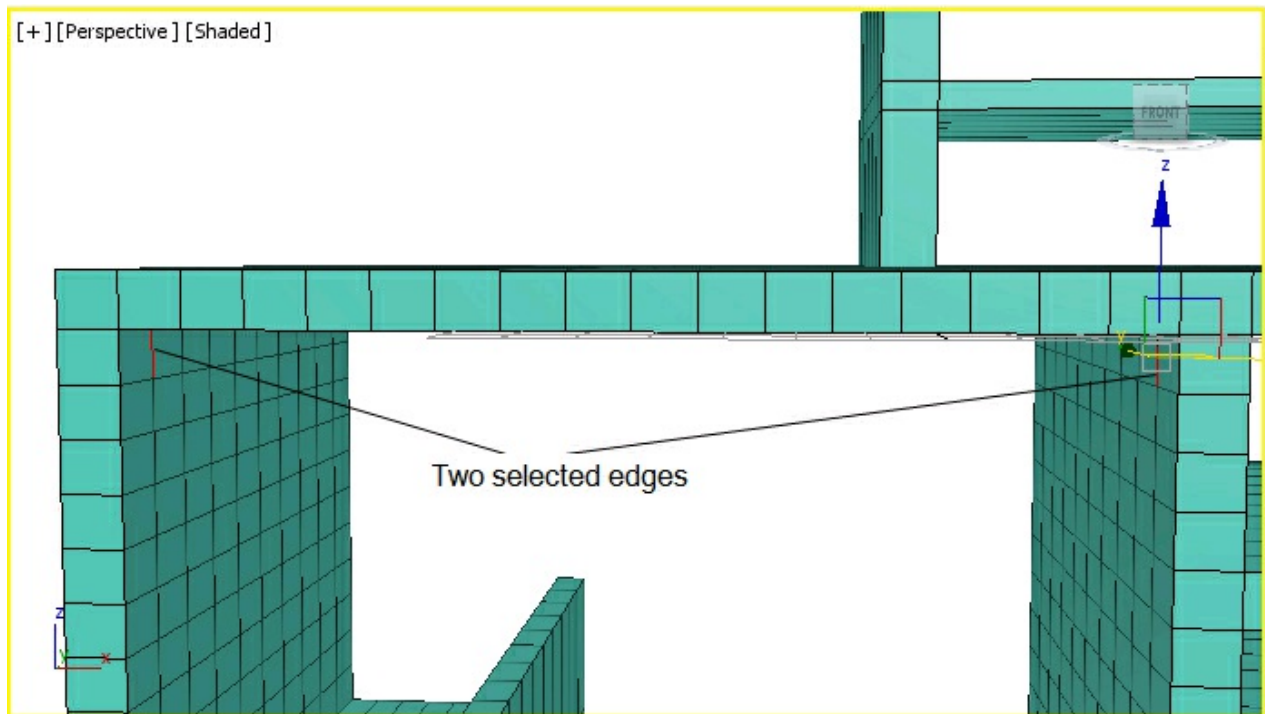

Figure 9-83 Two edges selected from the lower left part
1. Select the **Edge** sub-object level and then select two edges from the lower left part of *computer table*, as shown in Figure 9-83.